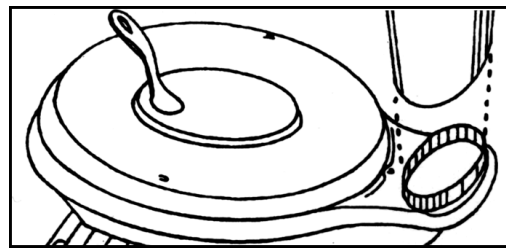
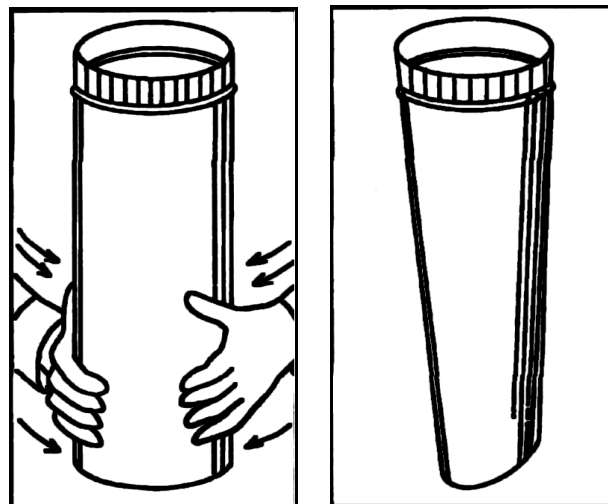
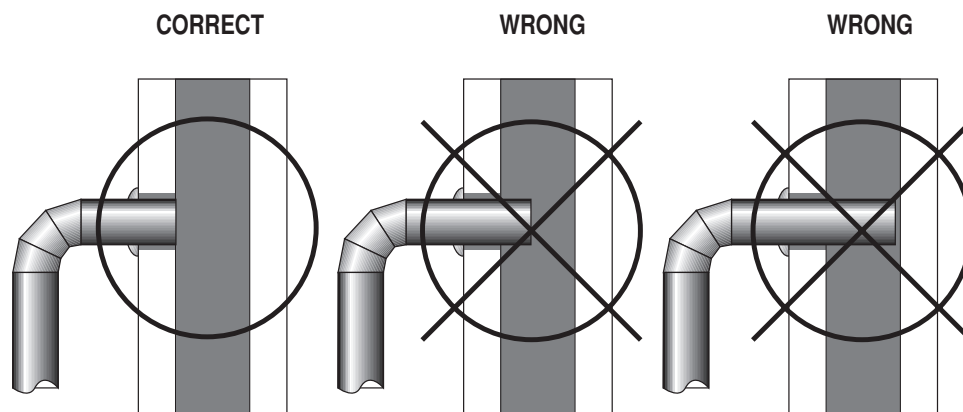

Fig. 5 – Flue Outlet Collar
Fig. 6 – Hand-form pipe to oval shape – Fig. 7
Fig. 8 – Stovepipe/Flue Connections
1. The stove must be placed on solid concrete, solid masonry, or when installed on a combustible floor a solid surface floor protector listed to UL1618 Type 2 with a minimum of 1" thick and a R-value of 3.0 or greater, such as Hy-C or Imperial Model UL 5463BK must be used. (NOTE: To calculate R-values of equivalent alternative materials, see page 15). The base must extend at least 18" beyond the front, rear and sides of the stove, and **must** extend underneath and 2" beyond each side of horizontal connector pipe if it is elbowed towards a wall (see figure 5 and consult local building codes and fire protection ordinances.)
- The smooth end of the stovepipe fits over the cast iron flue collar at top rear of stove (fig. 5).
- Hand form lower end (fig. 6) of stove pipe to oval shape (fig. 7) and slide over flue outlet collar as shown in figure 5.
- Secure stove pipe to flue collar with at least three (3) sheet metal screws and seal with stove cement.
- The pipe cannot extend into the chimney flue (figure 8).
- Secure pipe/elbow sections with three (3) sheet metal screws at each joint to make the piping rigid. Secure pipe/elbow sections with a minimum of three (3) equally spaced sheet metal screws at each joint and at the stove collar to make the pipe rigid.
- It is recommended that no more than two (2) 90 degree bends be used in the stovepipe installation. The use of more than two 90 degree bends may decrease the amount of draw and possibly cause smoke spillage. Where possible, use only corrugated (nonadjustable) elbows. These provide a better seal.
2. Install a fire clay (5/8" minimum thickness) thimble. Make sure the thimble is flush with the inner surface of the chimney liner and does not protrude into the flue (see figure 8 on page 6).
4. Install the stovepipe into the thimble as far as possible without extending past the flue lining (see figures 8 & 9 on pages 6 & 7).